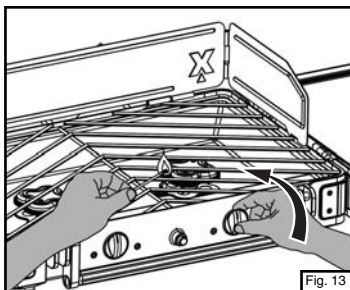

Fig. 13
- Hold lighted match near burner and open burner valve (Fig. 13).